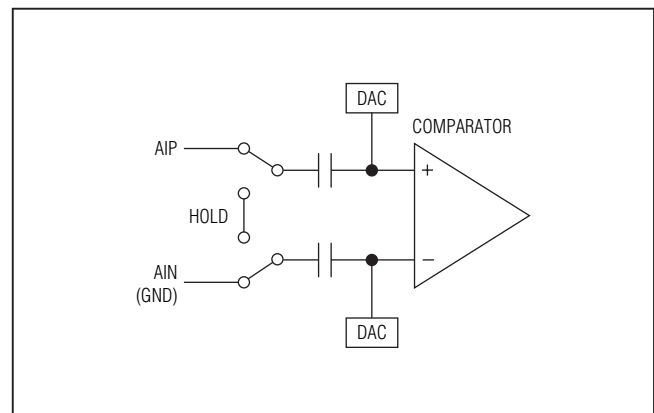

Figure 3. Equivalent Input Circuit
**Note 10:** See Figure 3 (Equivalent Input Circuit).
In single-ended mode, the ADC always operates in unipolar mode. The analog inputs are internally referenced to GND with a full-scale input range from 0V to  $V_{REF+}$ . Single-ended conversions are internally referenced to GND (Figure 3).